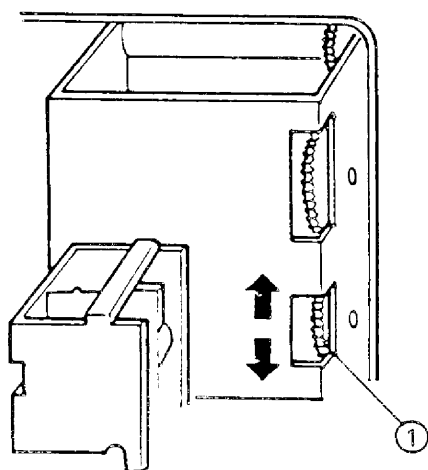

Figure 6
CALIBRATION	Hold PRESELECTOR TUNE knob with your hand, and set the gear ①, shown in Figure 6, so that the Preselector Dial is as shown in Figure 7.